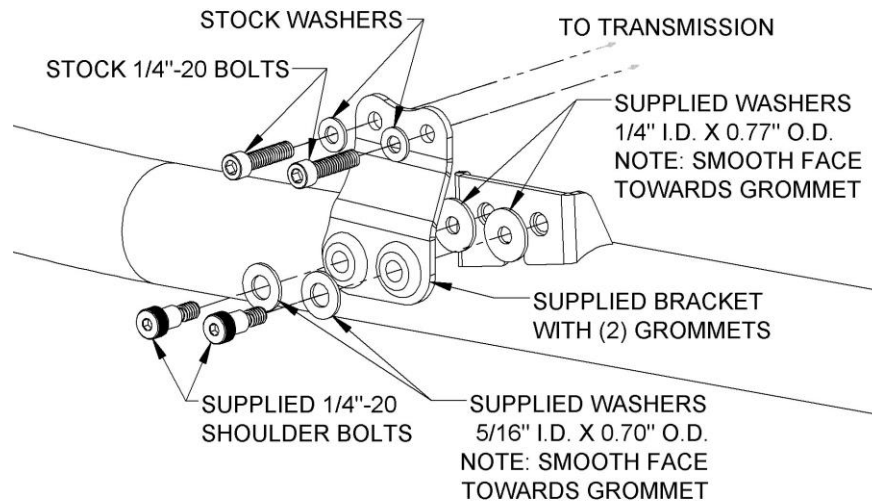

FIGURE 6
12. Using **FIGURE 6** below, insert the 5/16" I.D. washer over both supplied shoulder bolts, make sure the smooth side of the washer is facing toward the threads of the bolts. Insert them through the grommets on the supplied bracket, be sure the bracket is oriented as shown in **FIGURE 6**. On the other side of the bracket, install the 1/4" I.D. washer over the shoulder bolt threads. Ensure that the smooth side of each washer is contacting the grommet. (The stamped side with sharp edge must face away from the grommet to ensure long life of the grommet.) Apply blue Loctite to the threads of the shoulder bolts. Thread both shoulder bolts and bracket assembly loosely onto the welded mount on the crossover assembly. See **FIGURE 6**.